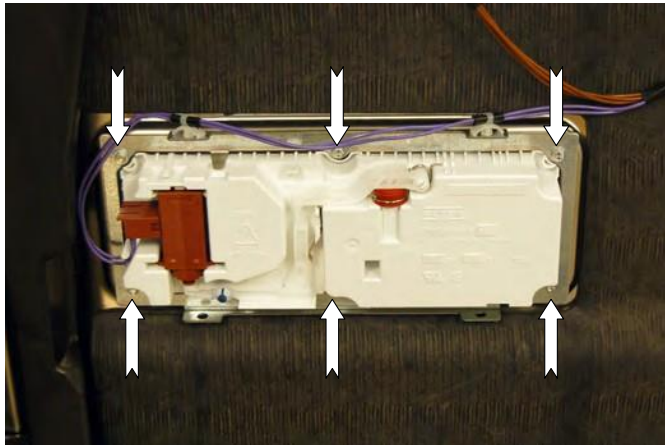

Figure 1
3. Remove - 6 - 1/4" hex head screws securing the dispenser to the door, see figure 1.